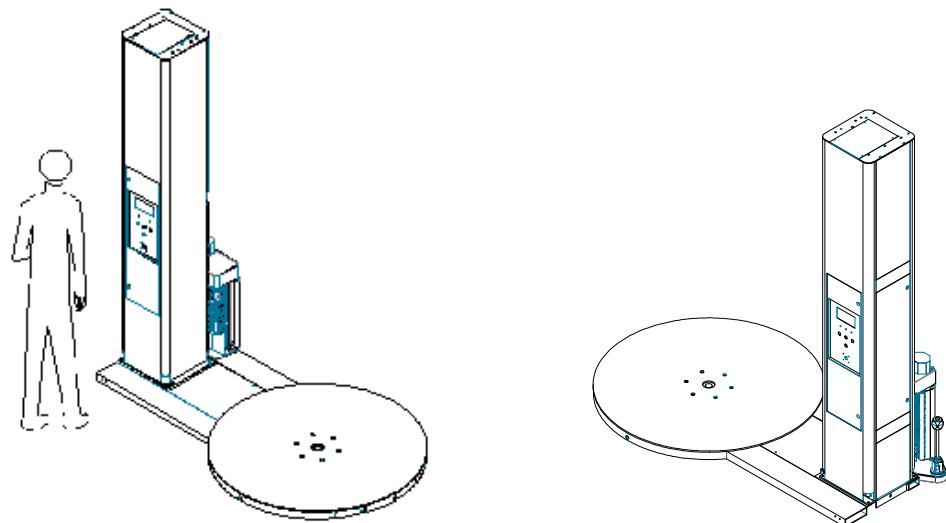

FIG 2-29
- Operator's standing position is shown in FIG 2-29, in front of the control panel;